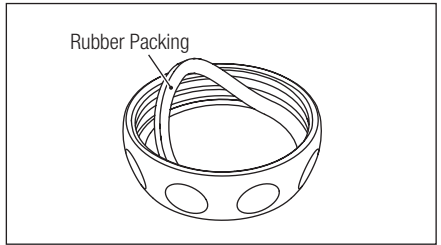

Fig. 19
2) Remove the Rubber Packing and disassemble the Powder Case Cap. (Fig. 19)